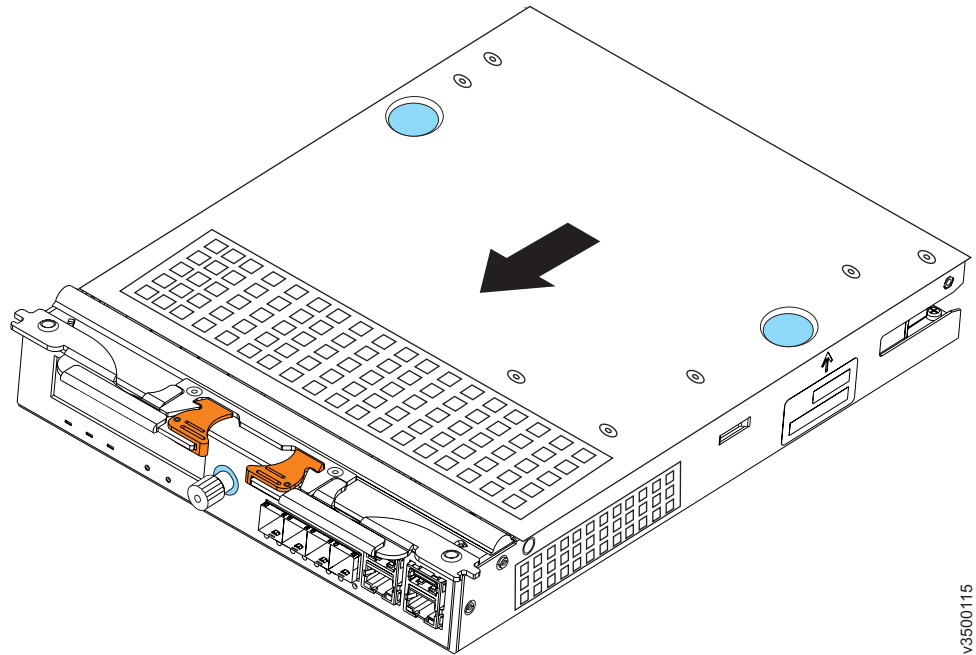

Figure 22. Reinstalling the canister cover
1. Reinstall the cover as shown in Figure 22.